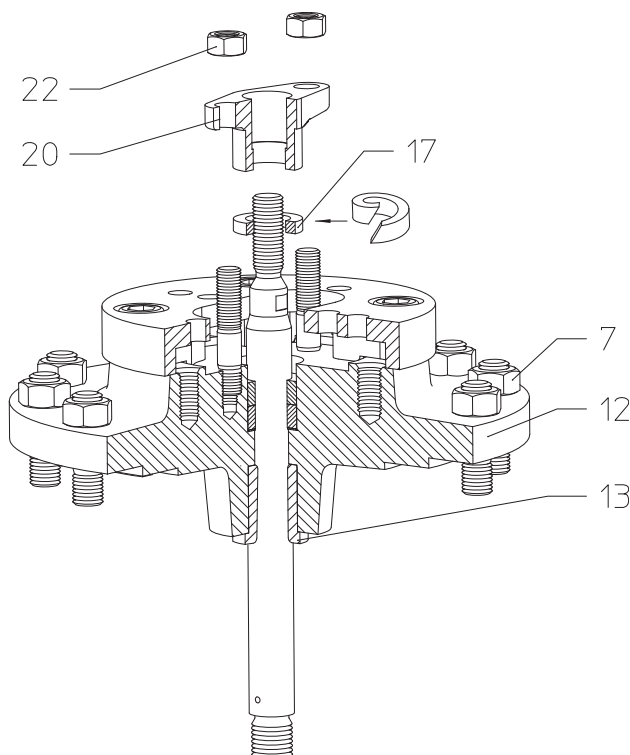

Fig. 8: Stuffing box packing
- Insert the new packing ring as shown in the Fig. 8.